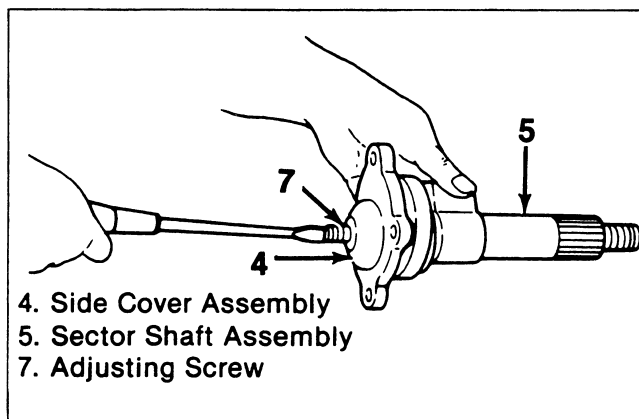

Figure 7. Sector Shaft Assembly/Disassembly
- Sector shaft assembly (5) from side cover assembly (4) by turning the adjusting screw (7) clockwise (figure 7).